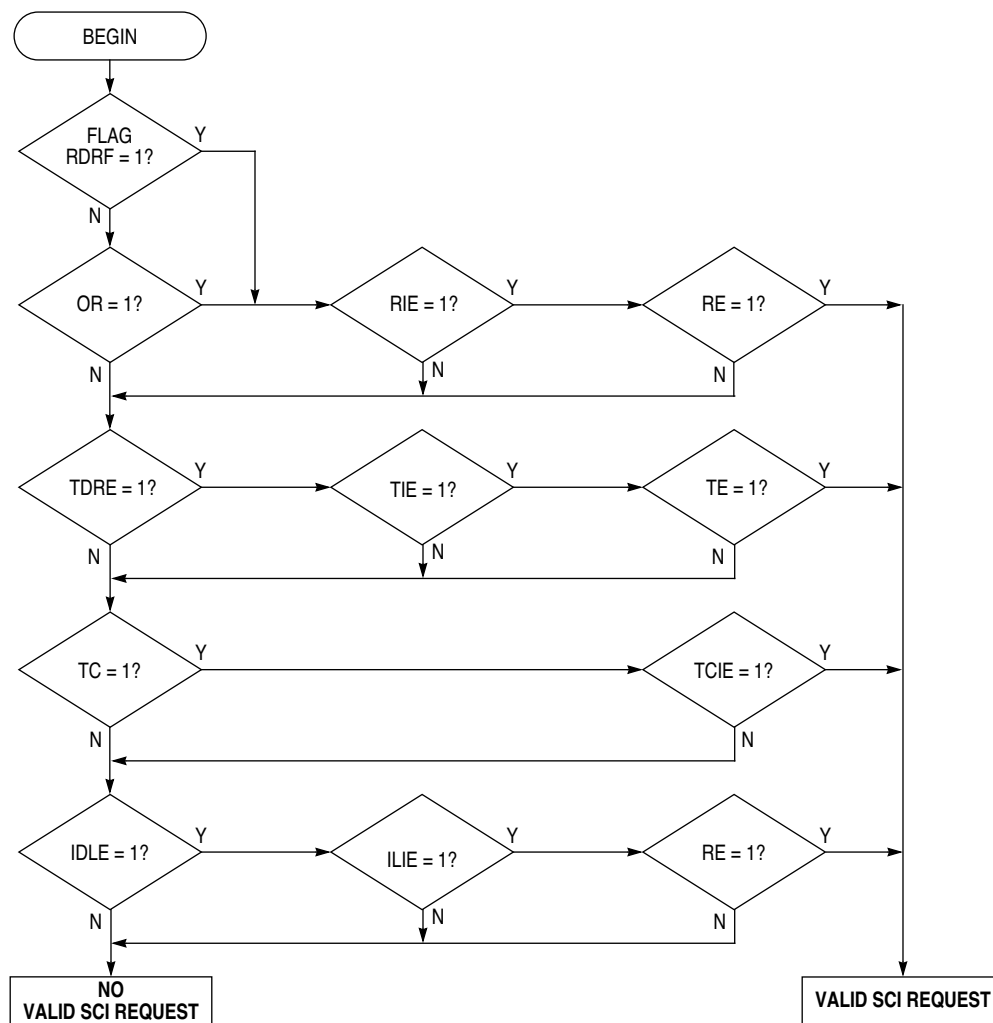

Figure 9-6 Interrupt Source Resolution Within SCI
**Figure 9-4**, **Figure 9-5**, and **Figure 9-6** illustrate the interrupt process as it relates to normal processing. **Figure 9-4** shows how the CPU begins from a reset and how interrupt detection relates to normal opcode fetches. **Figure 9-5** is an expansion of a block in **Figure 9-4** and shows how interrupt priority is resolved. **Figure 9-6** is an expansion of the SCI interrupt block in **Figure 9-5**. **Figure 9-6** shows the resolution of interrupt sources within the SCI subsystem.